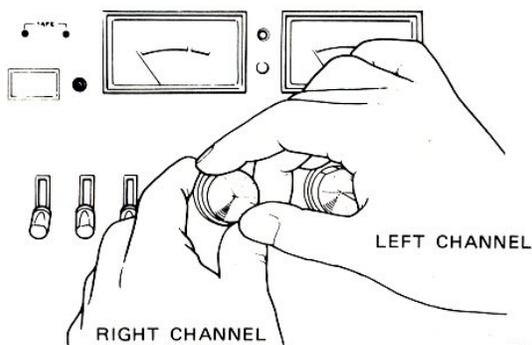

Fig. 9
As shown in Fig. 9, recording levels can be adjusted independently for right (R) and left (L) channels by using the INPUT controls.